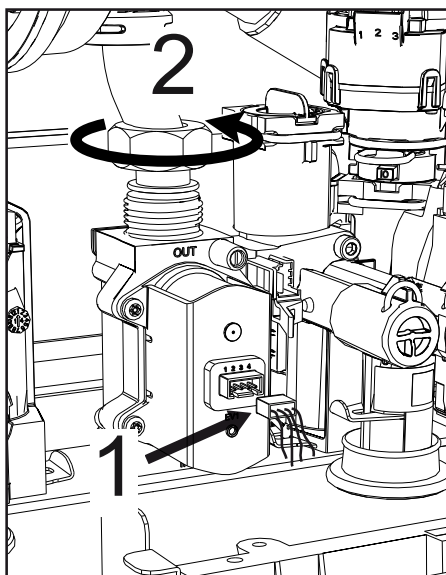

fig. 42
- Disconnect the electrical connectors "1" (fig. 42).
- Disconnect the gas supply pipe "2" (fig. 42)